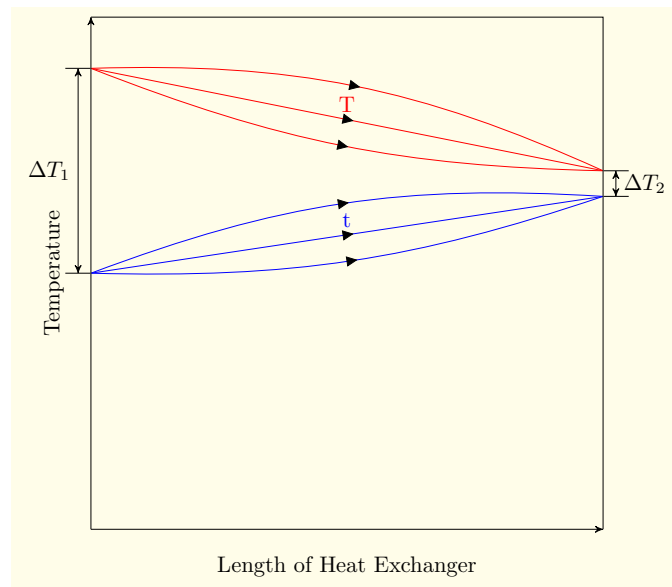

Figure 1: Possible temperature profiles in a parallel flow heat exchanger.
- Figure 1 shows possible temperature profiles of